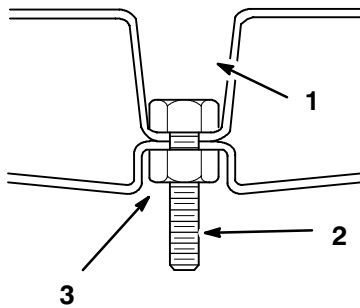

Figure 14
1. Place 4 bolts (5/16 x 1-1/4 in.) into the deep recessed holes in the left and right baffles. Secure the bolts with 4 locknuts (5/16 in.) in the shallow recesses. Refer to Figures 14 and 15 for correct assembly and hole usage.